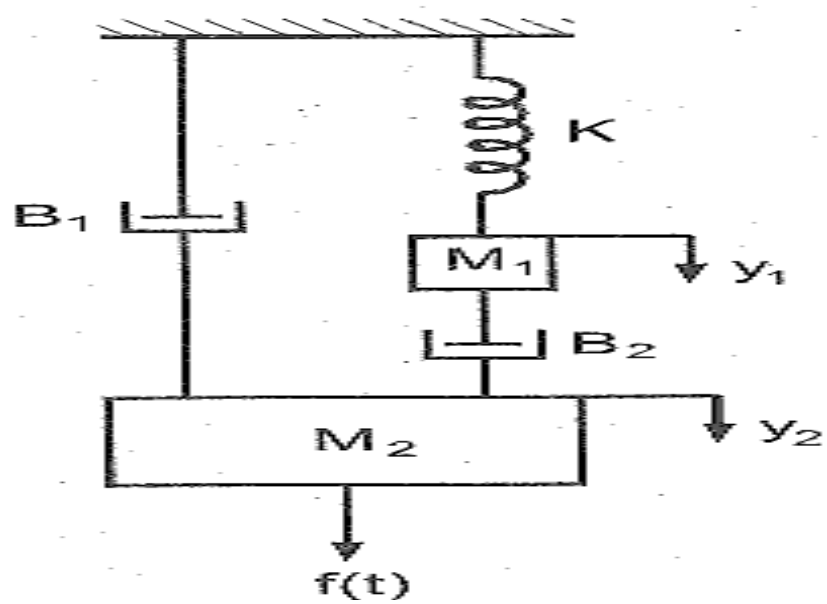

Figure 5
- (c) Obtain the state space representation of system as shown in figure 5 07